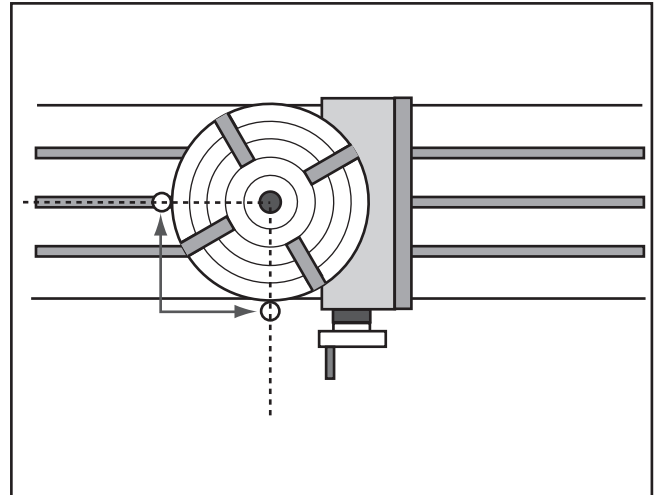

Figure 8. Locations for edge finding.
2. Use an edge finder, such as the Grizzly Model H2939, to locate the center of the rotary table by contacting two outside edges (**Figure 8**) and then moving the mill table half of the rotary table diameter in both directions. Adjust the table in the X & Y axis, lock the table in position and zero out the dials.